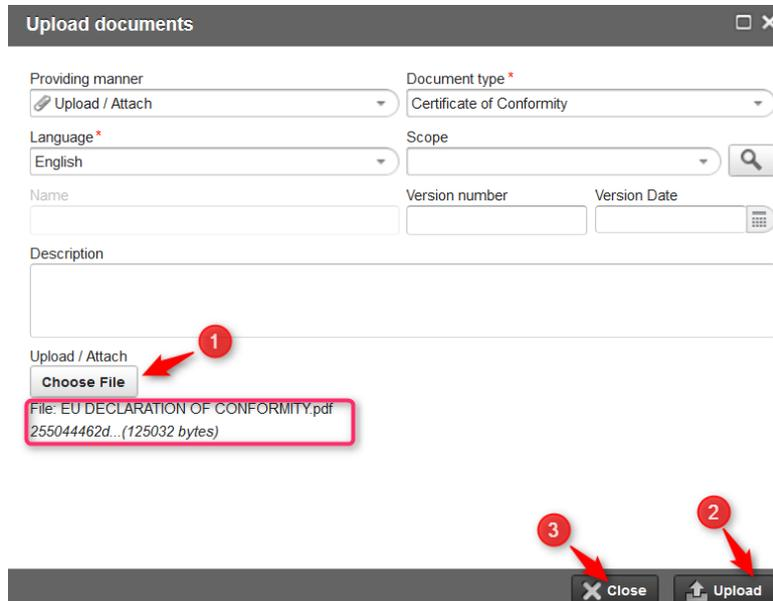

Figure 13: Uploading of documents: parameter settings
After choosing the document you will see the file name under the button “Choose file” (see red marked area in Figure 13). To finish the uploading click on the button “Upload” (see Figure 13 point 3) or repeat the steps (1) and (2) to upload further documents. Finally click on the button “Close” to finish the upload process.